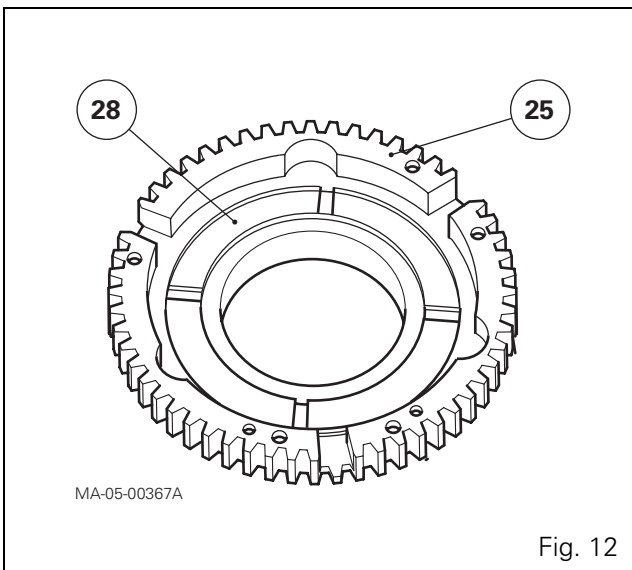

Fig. 12
- 27.** Remove the piston (28) by lightly tapping the cover plate (25) on a wooden block or using a jet of compressed air (Fig. 12).
28. Remove the seals (26) and (29) and discard them.